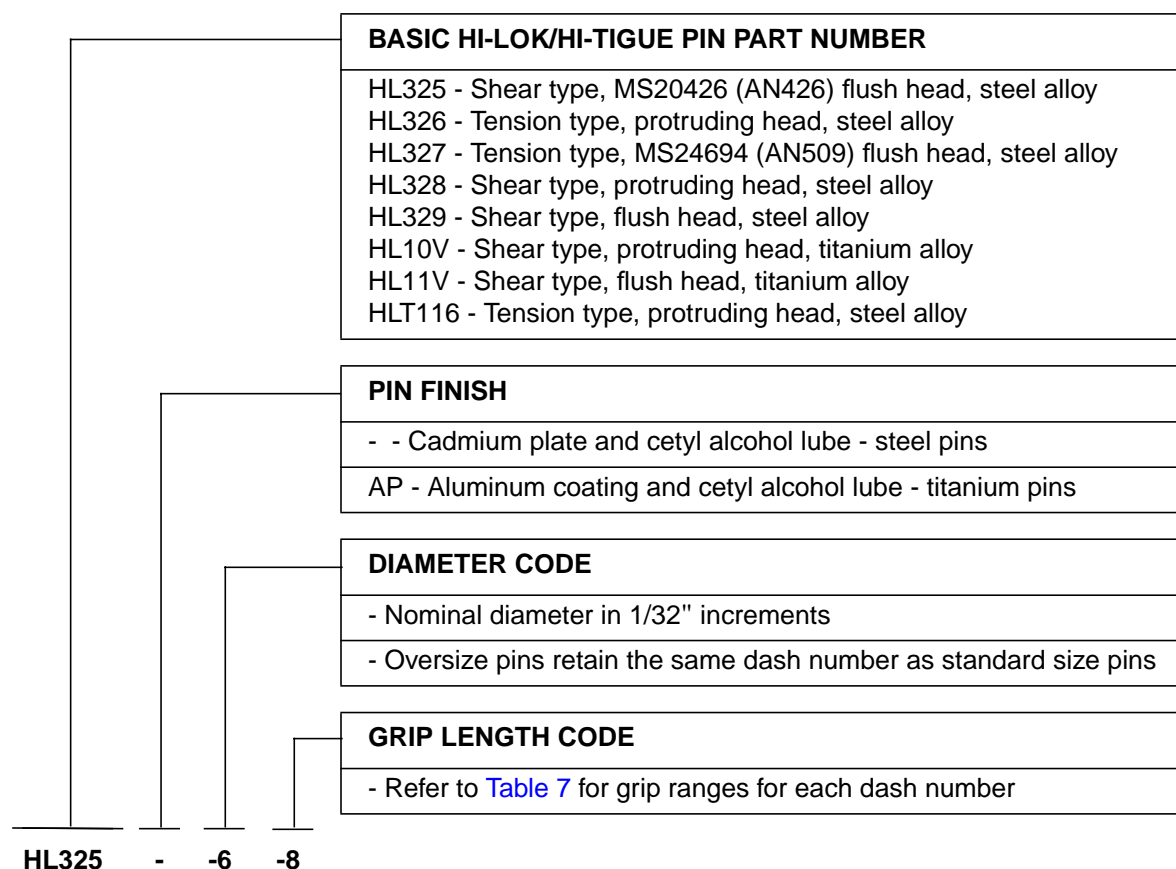

Figure 1 - Hi-Lok/Hi-Tigue Pins and Part Number Breakdown
- 4.1.1 Hi-Lok/Hi-Tigue pins, as specified on the engineering drawing. Refer to Figure 1 for a general description of the pins and a part number breakdown. Refer to Table 9 for a detailed listing of the fasteners.